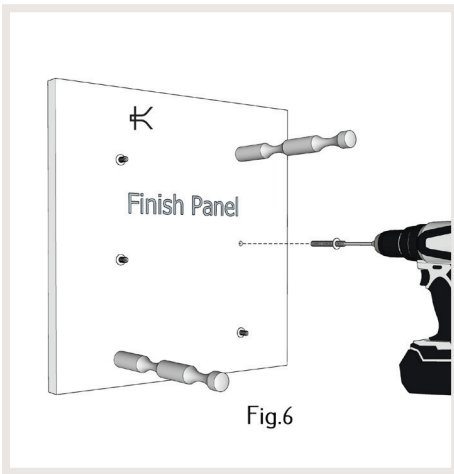

Fig.6
9. Drive the remaining set screws through the decorative panel holes into the structural back-panel leaving 1/2" to 5/8" protruding out of decorative top-panel. ***Fig6**